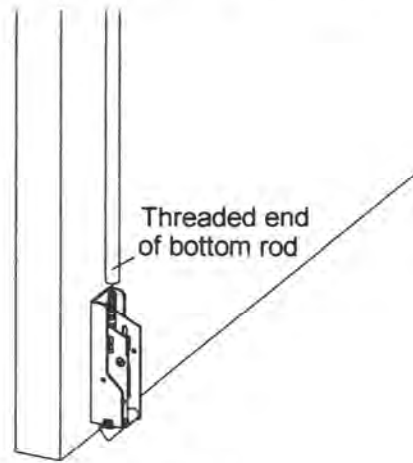

Figure 4
2. Screw the threaded end of bottom rod into bottom latch assembly. (See Figure 4.)